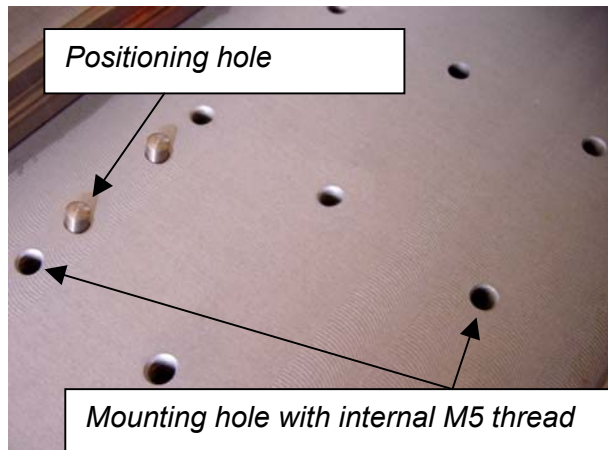

Figure 11: Carrier frame, details
1. Place the locating pins in the positioning holes of the carrier frame (see Figure 11, Carrier frame, details).